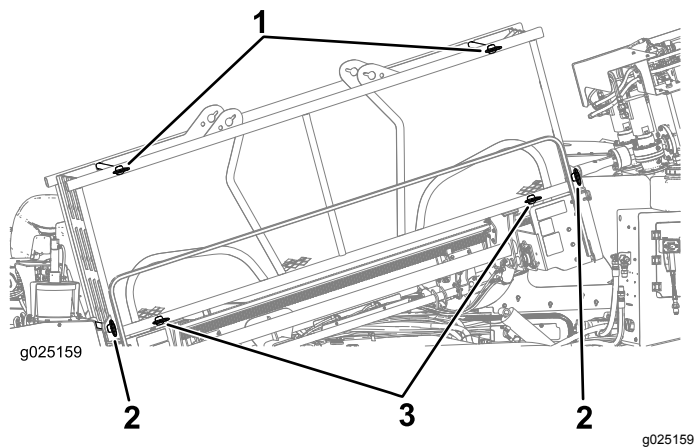

Figure 38
2. Ensure that the upper front and rear pipe-holder pins and the lower front and rear pipe-holder pins are installed (Figure 38).